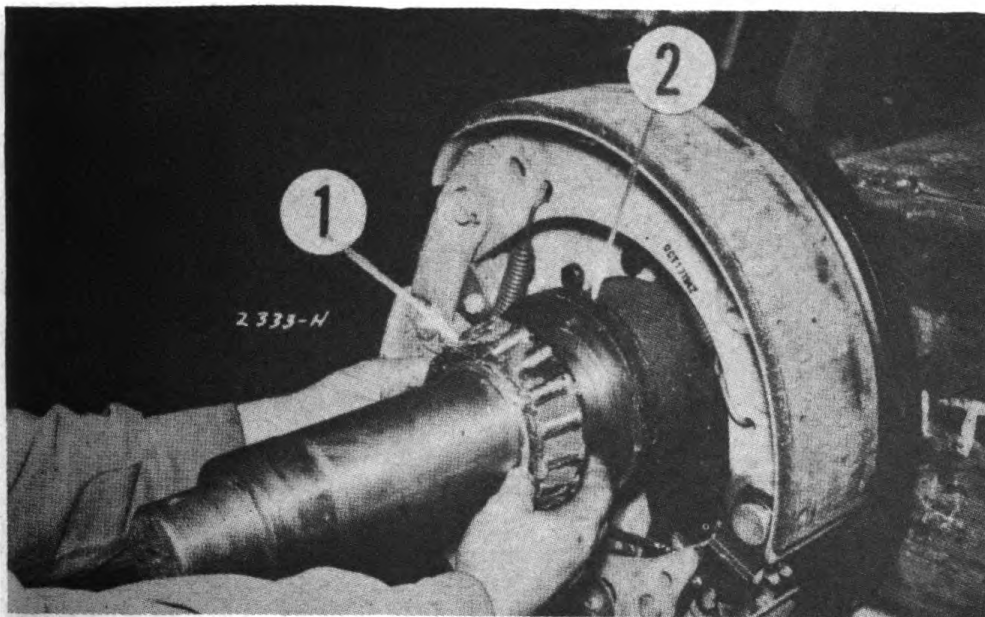

Figure 11. REMOVING TIMKEN CONE
2. Place Timken bearing cone (1) on spindle next to dust collar (2). See Figure 11.